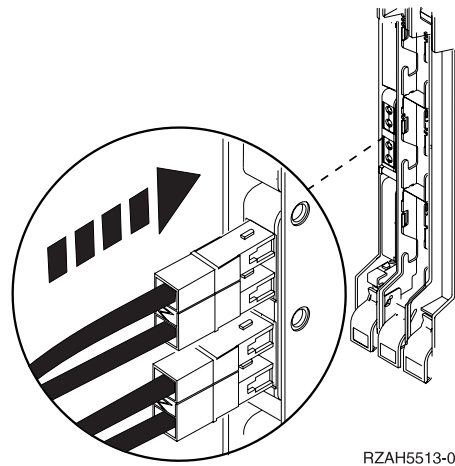

Figure 5. Installing an optical cable
- Refer to Figure 5 when installing a cable.